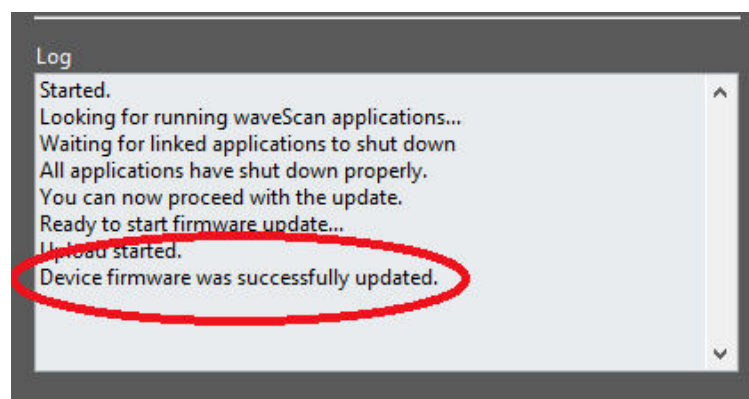

Figure 4.24: Log text confirming succesful firmware update.
5. Important: Wait until the log text "Device firmware was successfully updated" appears (see figure 4.24).